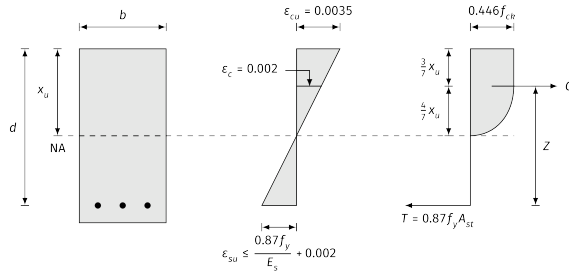

Figure 1: Single reinforced beam section (left) along with its corresponding strain diagram (center) and stress diagram (right).
For balanced section, using similar triangle for strain diagram from Fig. 1,
As, we have from Fig. 1, above shown, the compressive force (C) in concrete and Tensile force (T)